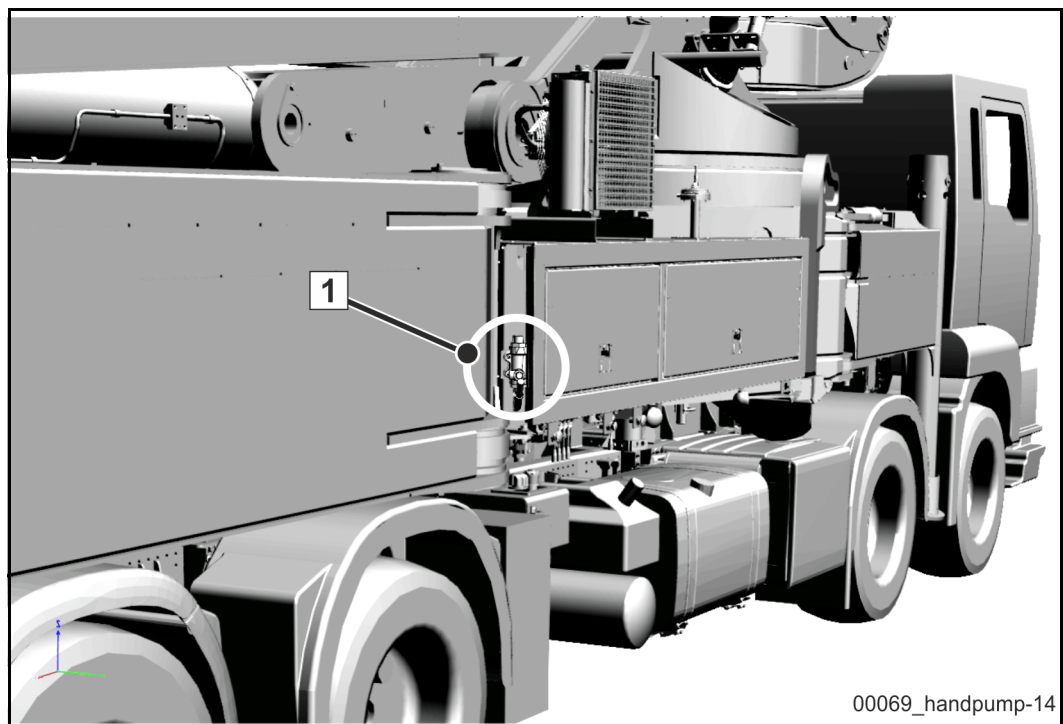

Fig. 234 Emergency hand pump (1) S 65 SXF
For machines with model S65SXF, the emergency hand pump (1) is located outside of the control cabinet near the rear outrigger (**Fig. 234**).